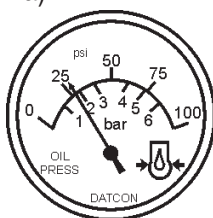

Figure 50. Oil Pressure Gauge
15. The engine oil pressure gauge (Figure 50) will indicate the oil pressure of the engine. Under normal operating conditions the oil pressure is approximately 35 to 65 psi. (241~448 kPa).